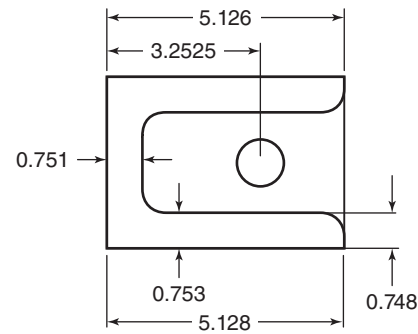

Figure 20-44 Why might this part be tapered on the edge?
17. On the program tryout for the 204-56B fitting, the condition shown in Fig. 20-44 is discovered. What is the problem and fix? (LO 20-1)